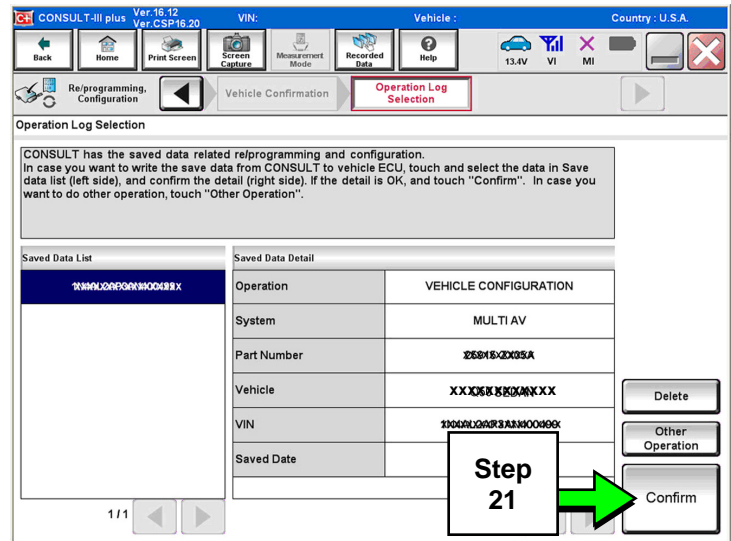

Figure 10
21. When you get to the screen shown in Figure 10, select **Confirm**.